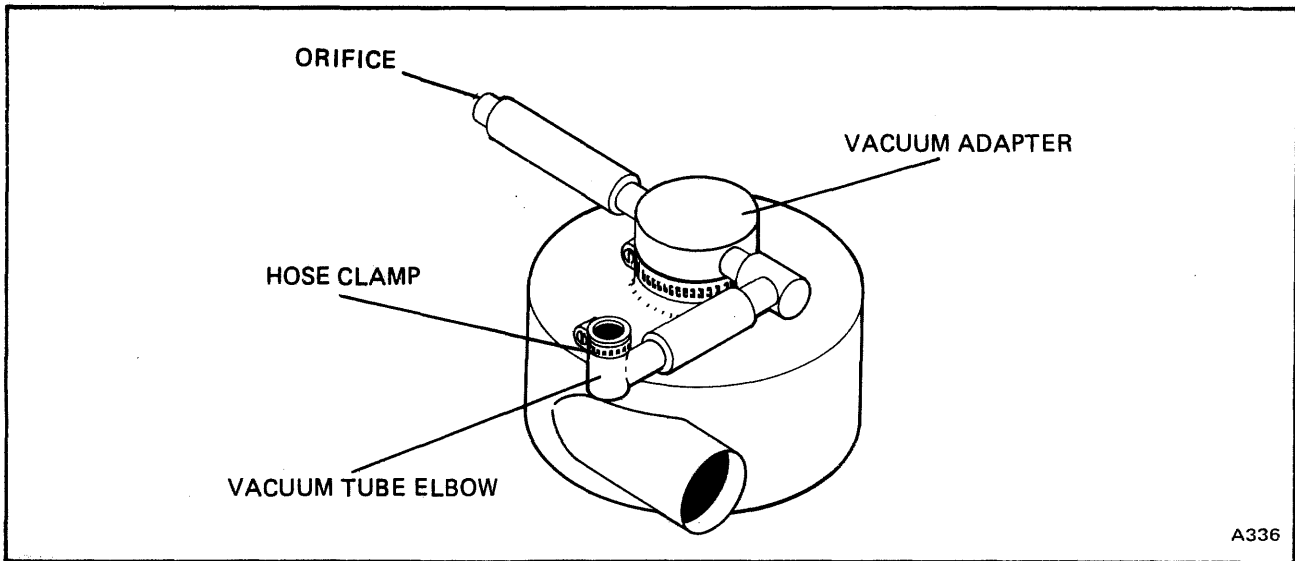

Figure 6-13. Removal of Vacuum Tube Adapter
- e. Loosen set screw in vacuum tube adapter elbow located on underside of mainframe, Figure 6-13. Remove elbow from sleeve. Prop open hopper follower using about one inch of cards inserted at a right angle.